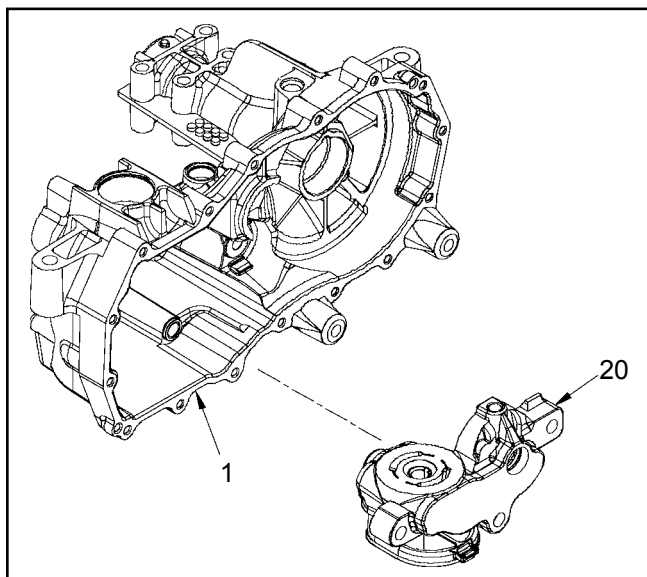
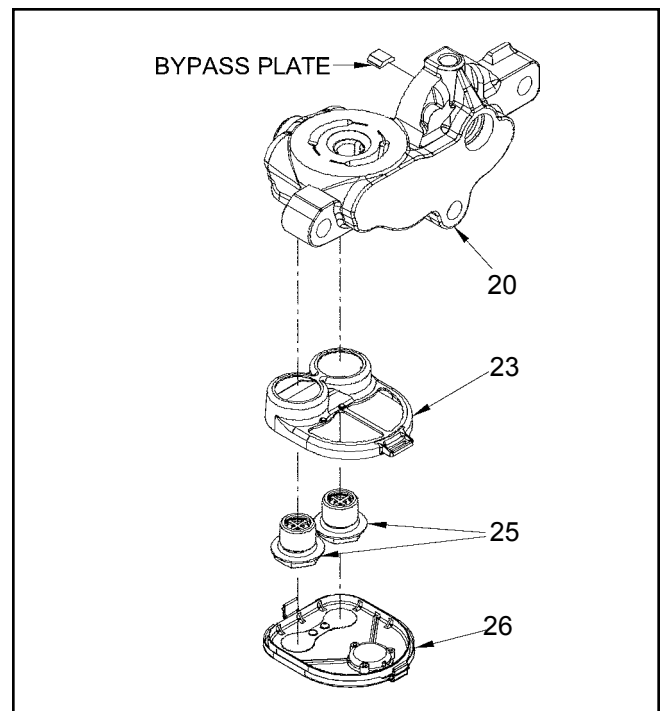

Figure 15.
Figure 16.
13. Remove the center section and filter assembly (20, Figure 15). NOTE: Bypass plate (Figure 16) may slide out of the center section.
15. Note the location of both check plugs (25) before removal for correct replacement during reassembly. Remove and inspect the check plug assemblies (25) for debris or damage.
16. Remove the filter base (23) and discard it. NOTE: The filter base is included in the filter kit to be installed during reassembly of the unit.
3. **(See Figure 16)** Install the new filter base (23) onto the center section (20).
4. It will be necessary to clean the check plugs prior to re-assembly. Install the check plugs (25), in their correct location, into the center section (20). Tighten the check plugs according to Table 2, page 36.
5. Align the tabs on the filter cover with the slots in the filter base and carefully press the cover onto the base until the tabs snap into place. Insure the bypass plate (Figure 16) is located properly in the center section.